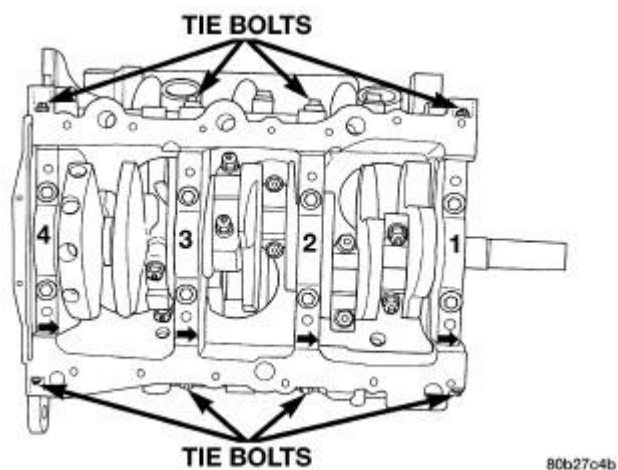

Fig. 310: Main Bearing Cap Identification & Bolts
Bearing caps are not interchangeable and are marked to insure correct assembly. Refer to **Fig. 310**. Upper and lower bearing halves are NOT interchangeable.
3. Identify bearing caps before removal. Refer to **Fig. 310**.